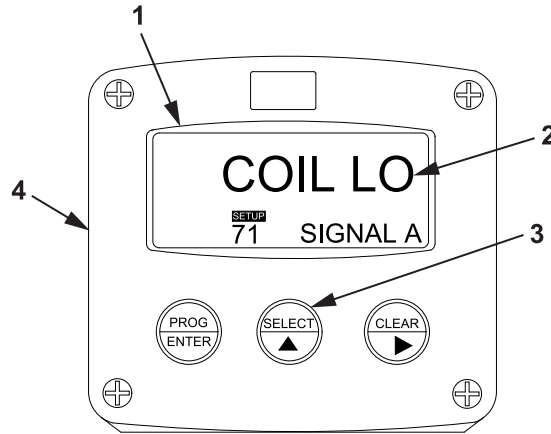

Figure 34. COIL LO Display.
- b. Verify that COIL LO (Figure 34, Item 2) appears on the display screen (Figure 34, Item 1). If COIL LO (Figure 34, Item 2) does not appear, perform the procedure to program tank volume meter monitor settings and select COIL LO (Figure 34, Item 2).
- c. Press the SELECT key (Figure 34, Item 3) on the tank volume meter monitor (Figure 34, Item 4).